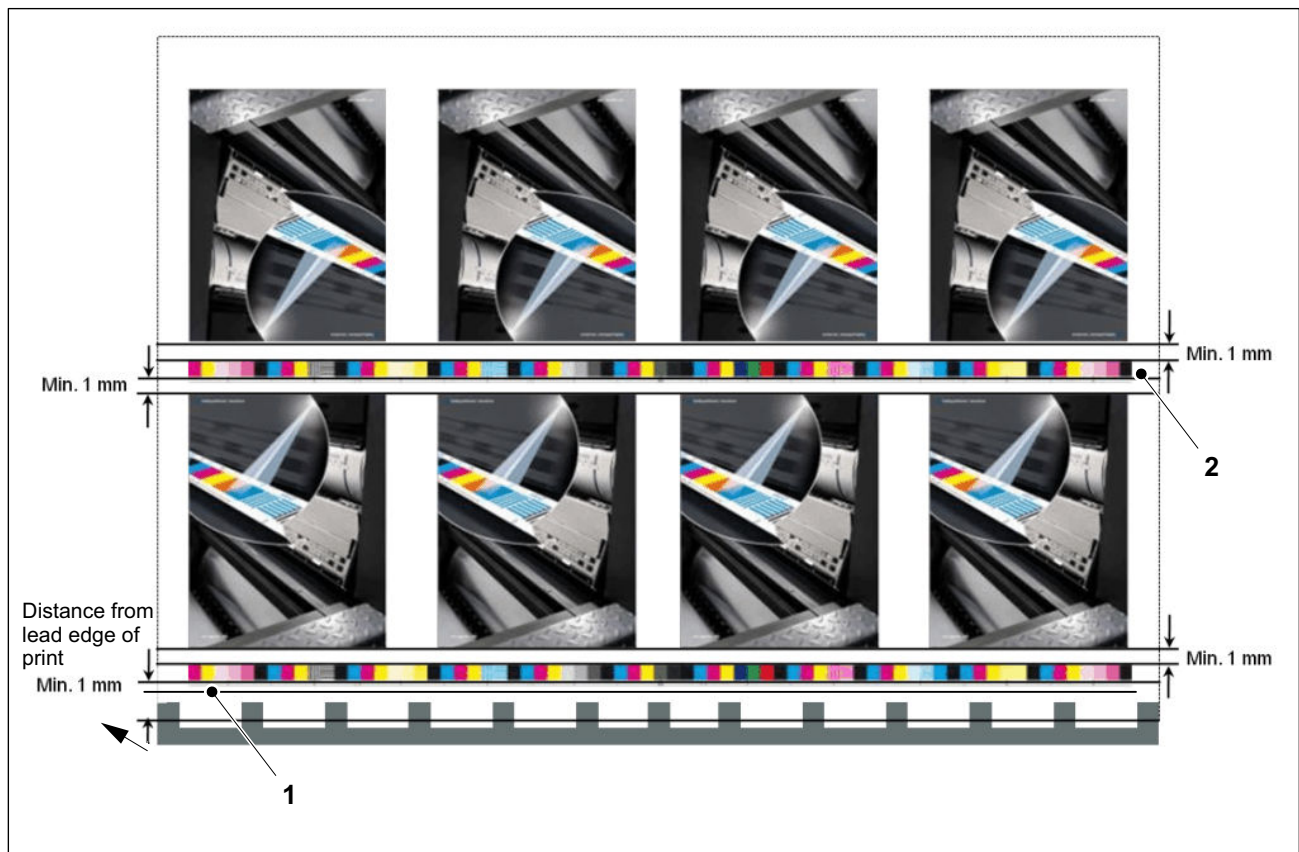

Fig. 31 Mounting Prinect Inpress Control
- You can mount the quality control strip at any position you wish between the lead edge of print (Fig. 31/1) and the center of the sheet (Fig. 31/2).